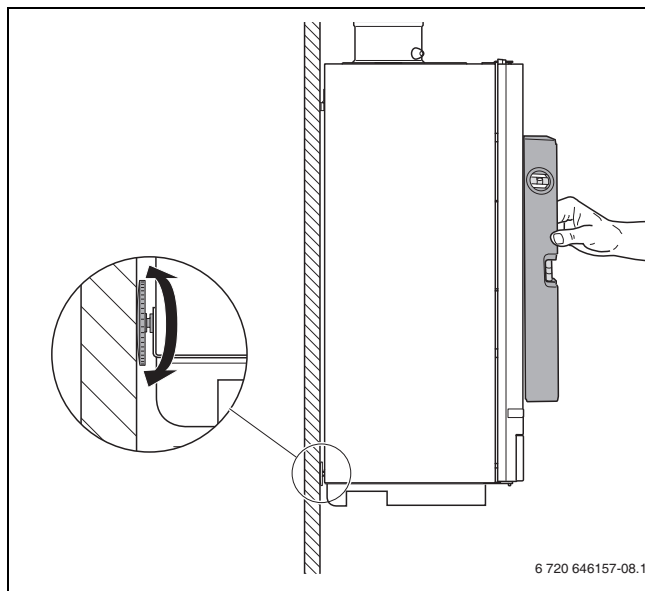

Fig. 9 Aligning the boiler with the set screw
- Level the boiler with the set screw and a spirit level (→ fig. 9).